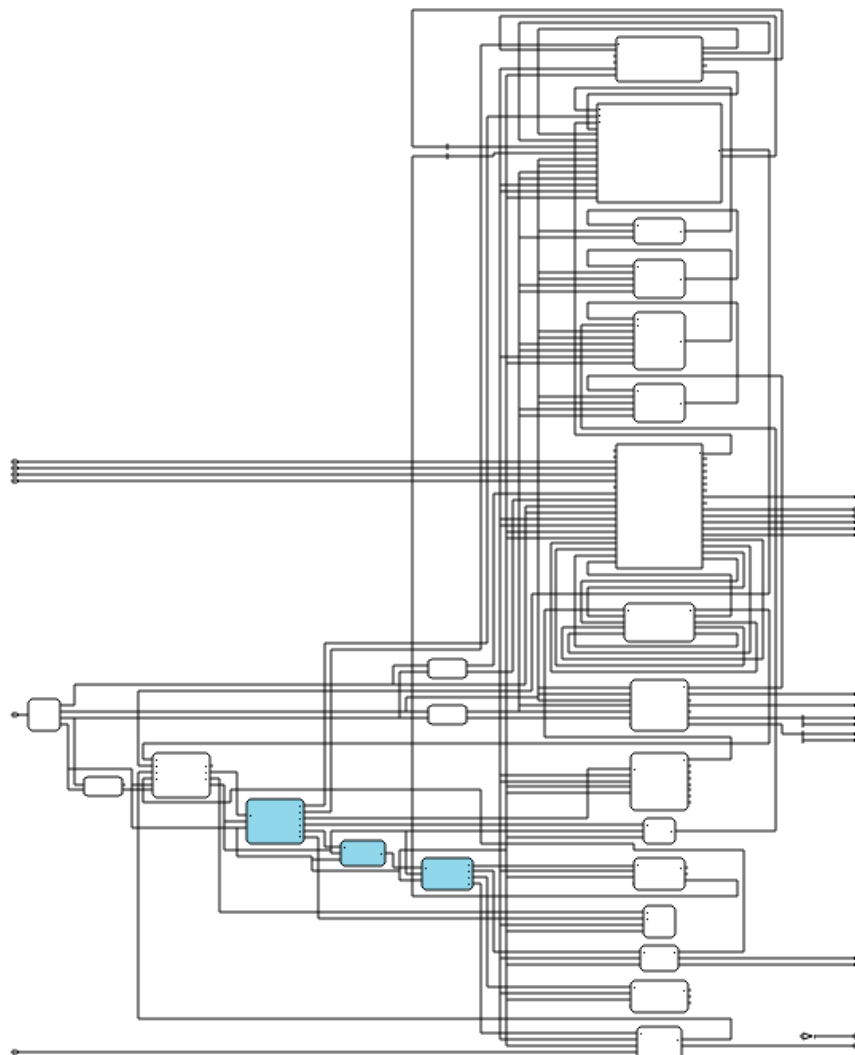

Figure 5.8. Lattice Propel Builder Window
2. Go to **File > Open Design**, browse and select the existing project file: *mipi_csi_to_usb_uvc.sbx*. The design appears, as shown in Figure 5.8.